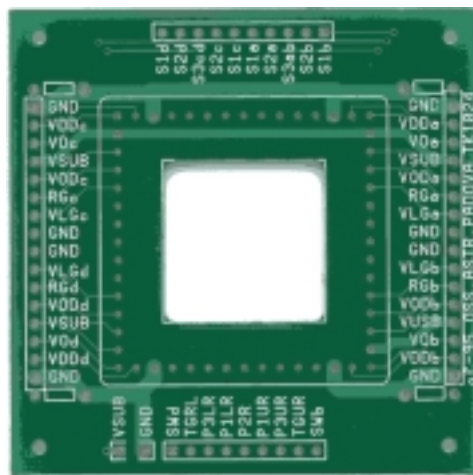

Fig. 6 The PCB CCD chip for the Site chip
- the CCD Printed Circuit Board (PCB, see Fig. 6)